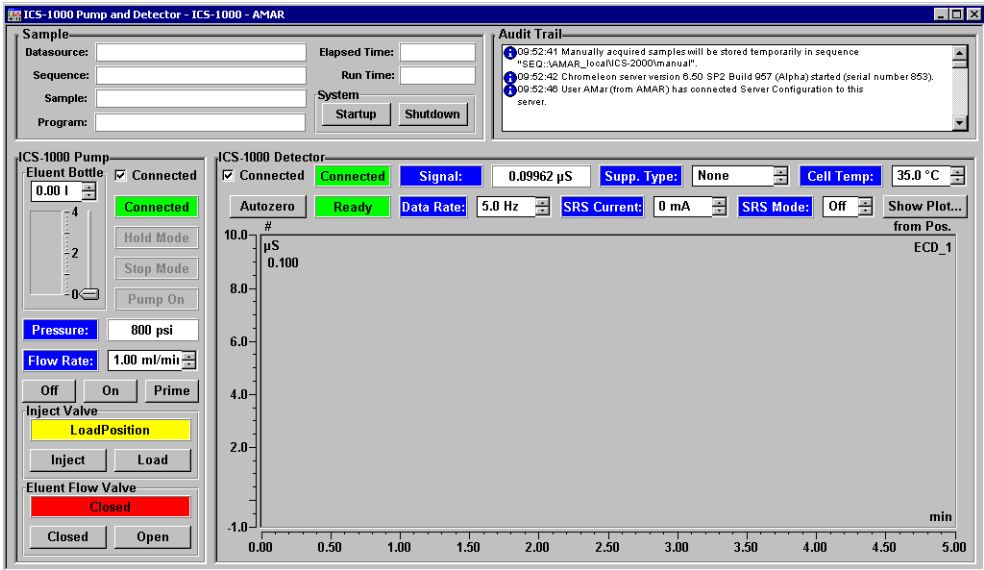

Figure 2-8. ICS-1000 System Control Panel (Traditional)
- Traditional system panels (see Figure 2-8) provide controls on a single window with minimal graphics.